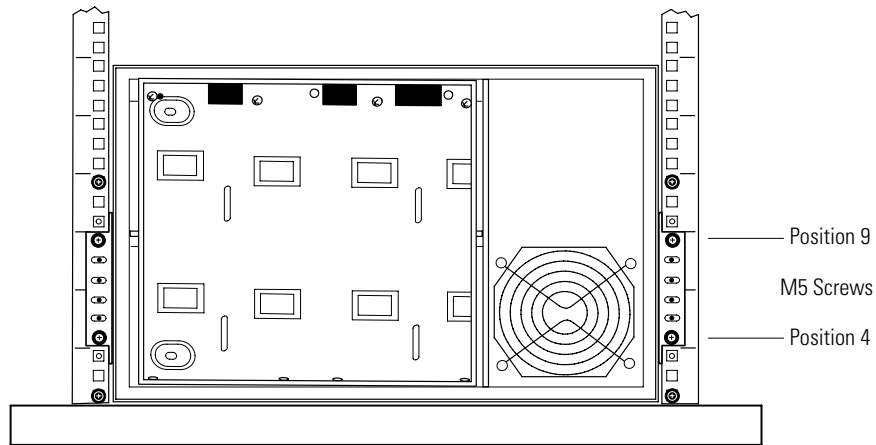

Figure 23. Securing the Front of the UPS
14. Using four M5 machine screws, secure the front of the cabinet to the rack as shown in Figure 23.